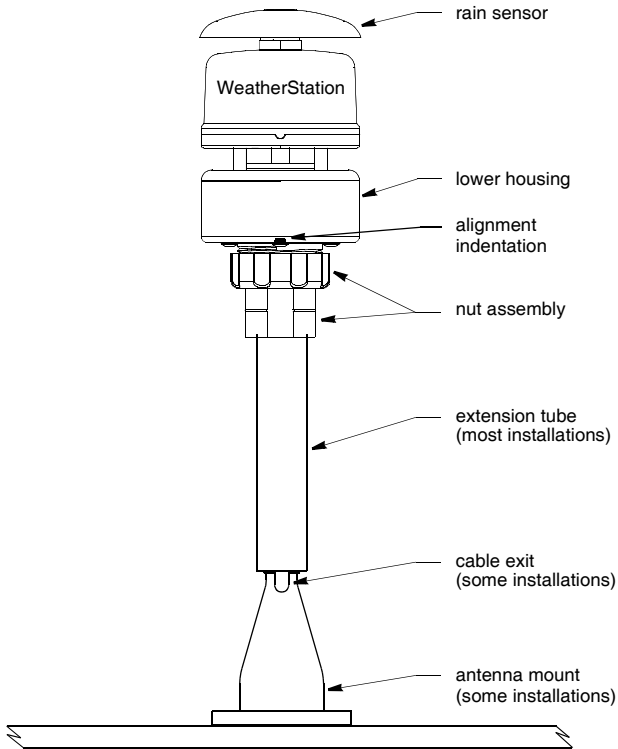

Figure 4. Installation (300WXR shown)
2. Position the mounting hardware at a 90° angle to the mounting surface. If necessary, use shims to make the mounting surface level (see Figure 4).
6. Screw an extension tube onto the antenna mount if desired (see Figure 4).
4. To accurately measure the wind direction, be sure to orient the alignment indentation correctly. Grasp the lower housing of the WeatherStation Instrument below the reflector plate and hold it in the proper position (see Figure 4).
5. Slide the captive nut upward and screw it onto the base of the WeatherStation Instrument (see Figures 4 and 5). **Hand tighten** only. Do not over tighten. *Be careful not to rotate the WeatherStation Instrument changing the alignment or loosen the nut assembly from the antenna mount/extension tube.*